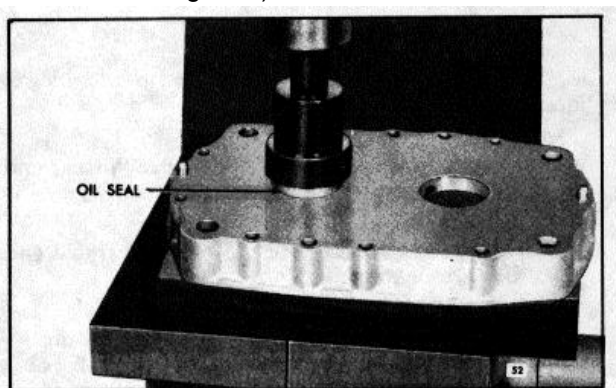

Fig. 8 - Installing Oil Seal in Blower End Plate using Tool J 6270-3.
- a. Support the blower end plate, finished surface facing up, on wood blocks on the bed of an arbor press (Fig. 8).
- c. Place the short end of oil seal remover and installer J 6270-3 in the oil seal and press the oil seal into the end plate until the shoulder on the installer contacts the end plate (Fig. 8).